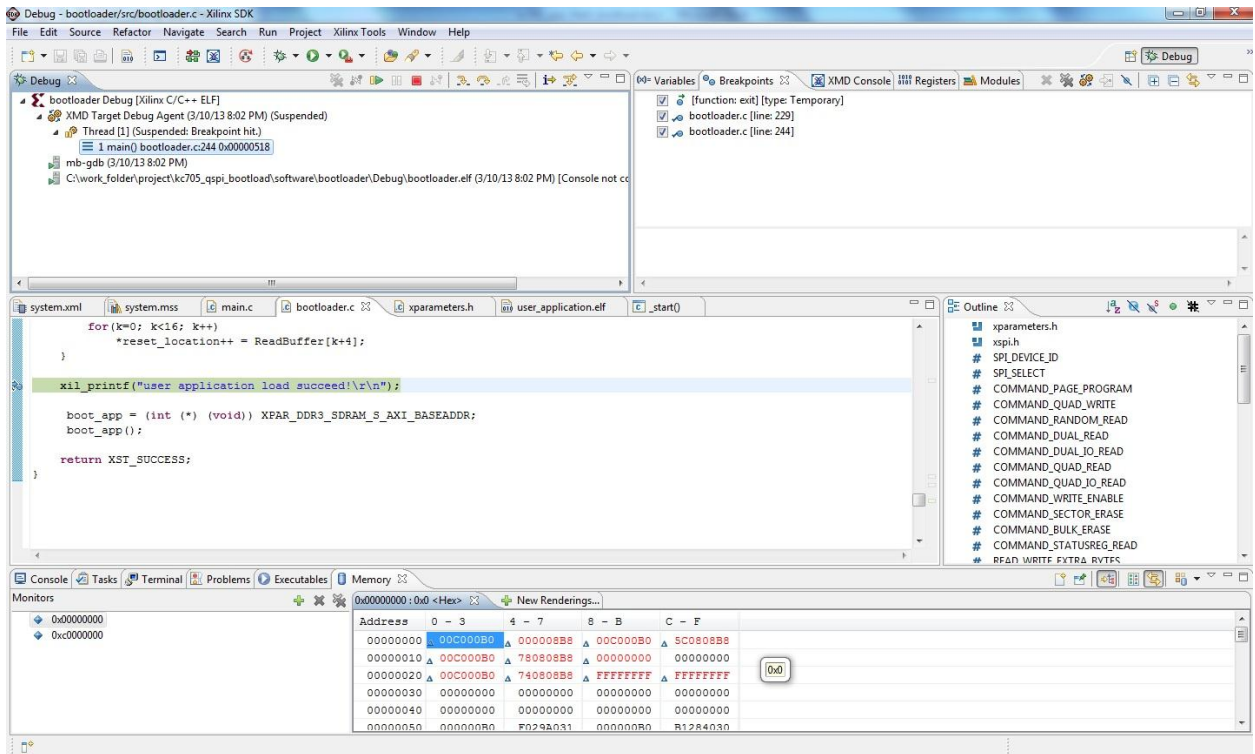

Figure 13
- g. Click **Resume** button, the breakpoint at line 240 will be hit. The memory view for 0x00000000 will change. Compare the data with **vector_section.bin** file, user can find out if any data is copied incorrectly(Figure 13).